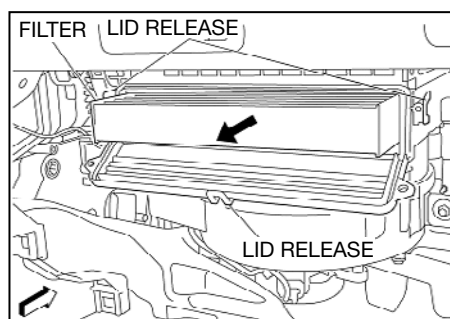

Fig. 20
4. Release cabin air filter cover (see Fig. 20).